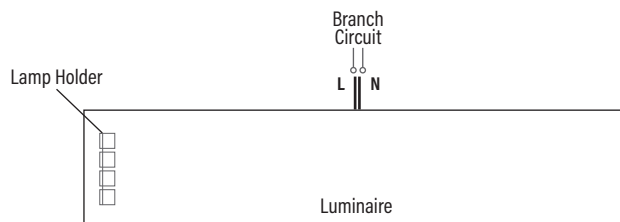

Fig. 1
STEP 3: Disconnect the luminaire supply wirings L and N to branch circuit as shown in Fig. 1